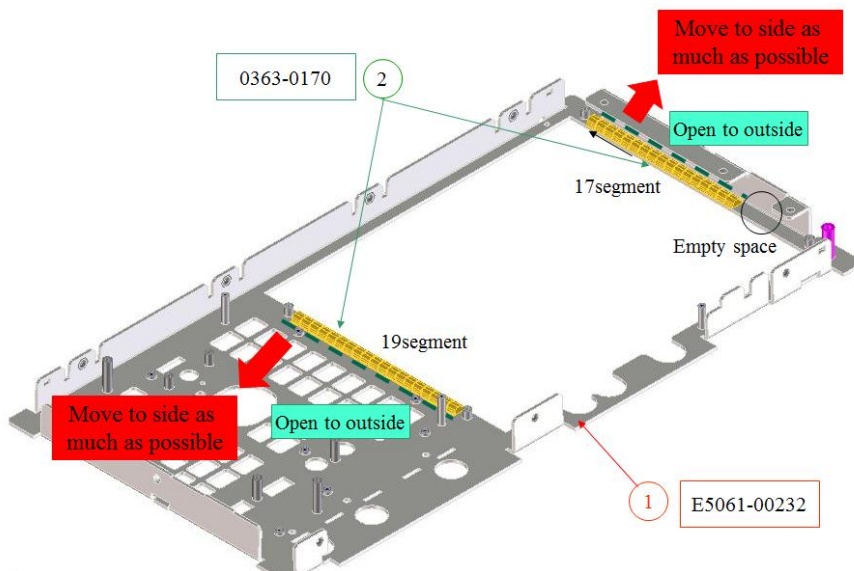
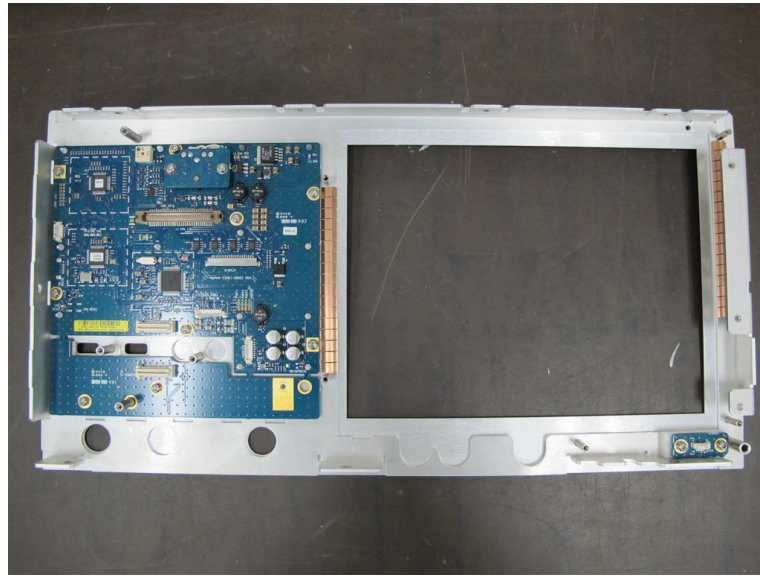

Figure 1-2
Figure 1-3
2. Install the gaskets as shown in Figure 1-2. Figure 1-3 illustrates the Front panel with the keyboard installed.